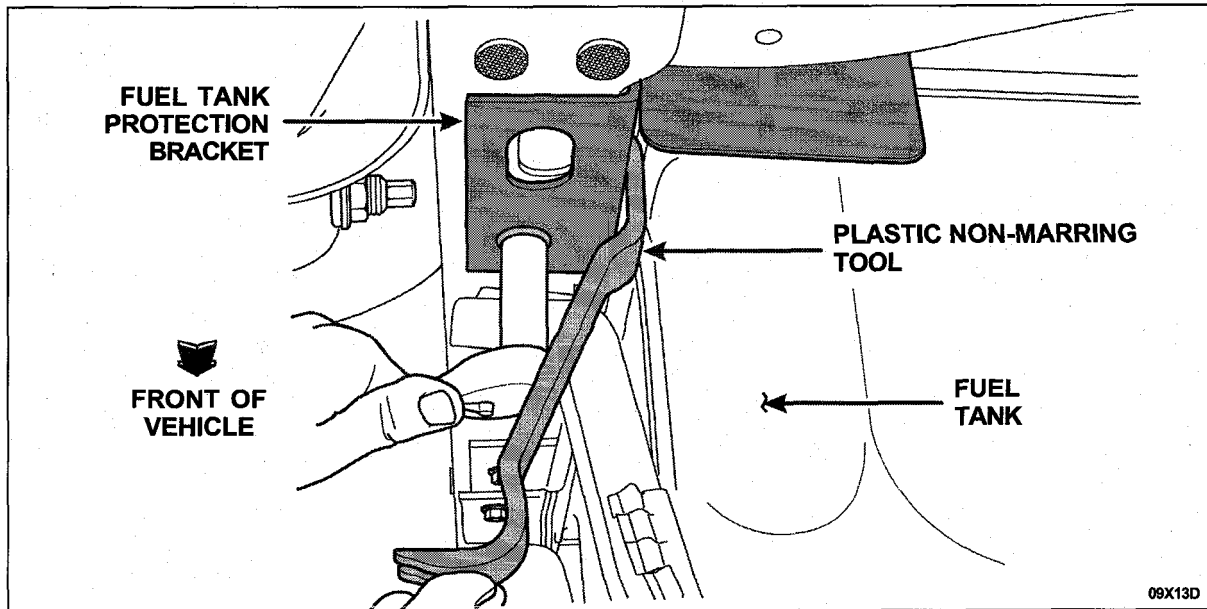

FIGURE 4
3. To position the fuel tank protection bracket correctly, place a non-marring tool, such as a plastic trim tool, between the bracket and the fuel tank lip. See Figure 4.